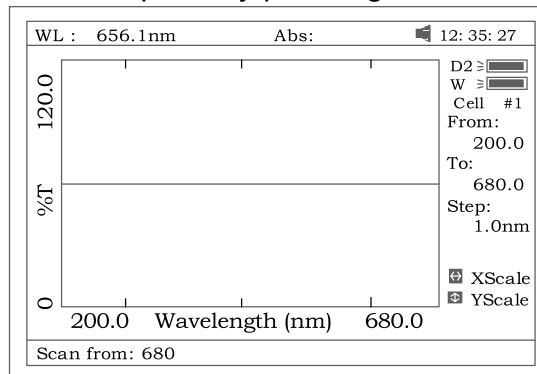

Fig 41
1. Press **【F1】** to setup, input the start wavelength, and end wavelength by pressing the numeric keypad (Fig 41). Note: The uv-3 SERIES scans from high to low wavelength. Browse and select the items of scan step and scan speed by pressing **【^】** or **【v】**.